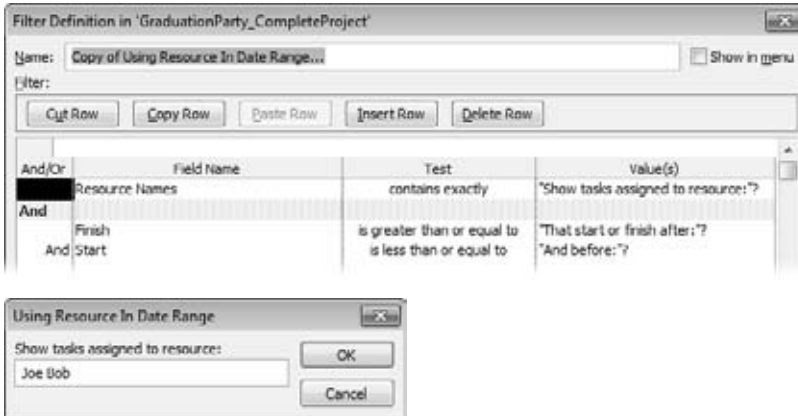

Figure 23-28:
2. In the Value(s) cell, type the prompt in quotation marks followed by a question mark, as shown in Figure 23-28.